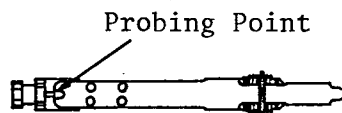

Figure 6-10. PC Board/Heatsink Assembly Check
3. Confirm that the gain of the PC board/Heatsink assembly is approximately -6 dB. The probing point is shown in Figure 6-10. If the gain is wrong, replace the PC board/Heatsink assembly.